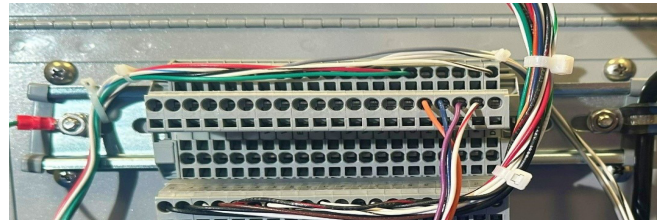

Figure 5. Inserting 20-position connector with 4-wires into the simulator terminal board receptacle
3. If not already connected, insert the 20-position simulator tap-changer connector into a terminal board receptacle. This connection can be made to either the top or bottom connector. See Figure 5. Make sure the labels on the connector match with the labels on the receptacle.
2. Disconnect the 20-position connector shown in Figure 5 from the terminal board receptacle. It may hang down to the side of the terminal board when not in use.